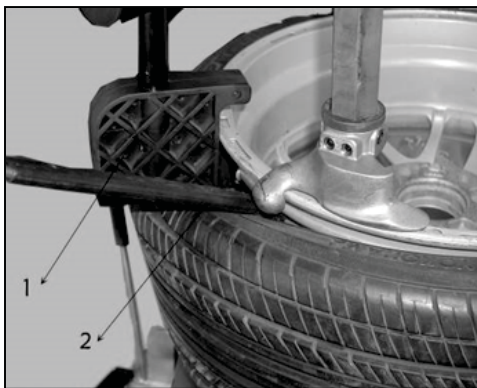

**Fig. 37**
6.2.2 First, position the claws according to the dimension of the tire and then clamp the rim by the claws and position the tire press cone roller at the center of the rim (Fig. 37). Push down on the manual valve to press the rim down until the rim is lower than the surface of the claws. At this moment, you can immediately lock the rim. Lift up the support arm and place it at the working position and take off the press cone roller and place it on the support.